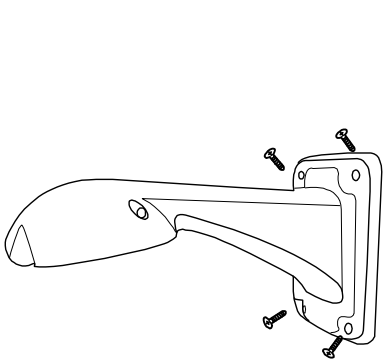

Figure 3
- Step 3: Screw the bracket to the wall with four screws. (Please refer to *Figure 3*)